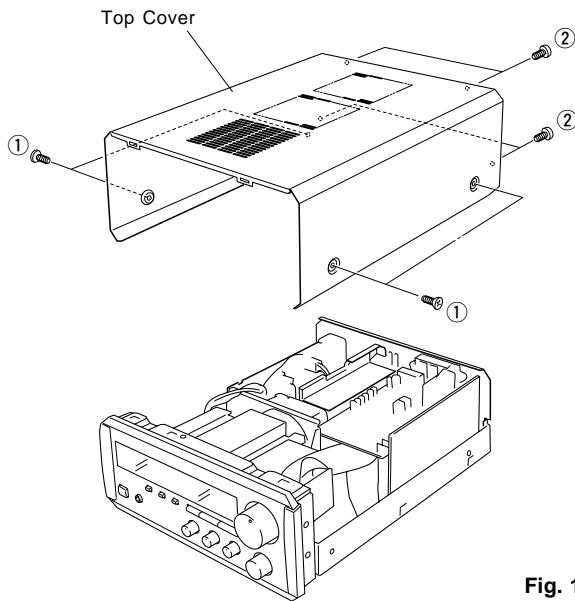

Fig. 1
- a. Remove 4 screws ( ① ) and 4 screws ( ② ) in Fig. 1.